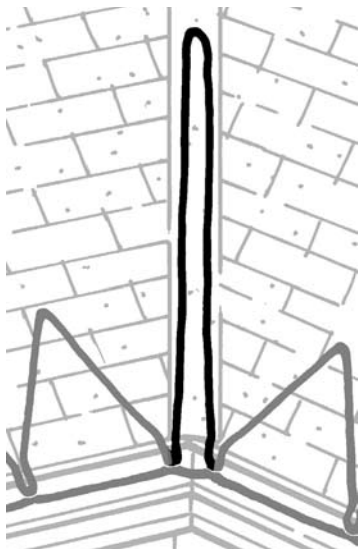

Figure 6. Cable pattern in a valley
- **Pattern for valleys:** If a valley exists in a problem area of your roof, you must route cable up and back down the valley a minimum of 3 feet, as shown in Figure 6. Extend the cable higher if the warm area of your roof is higher.